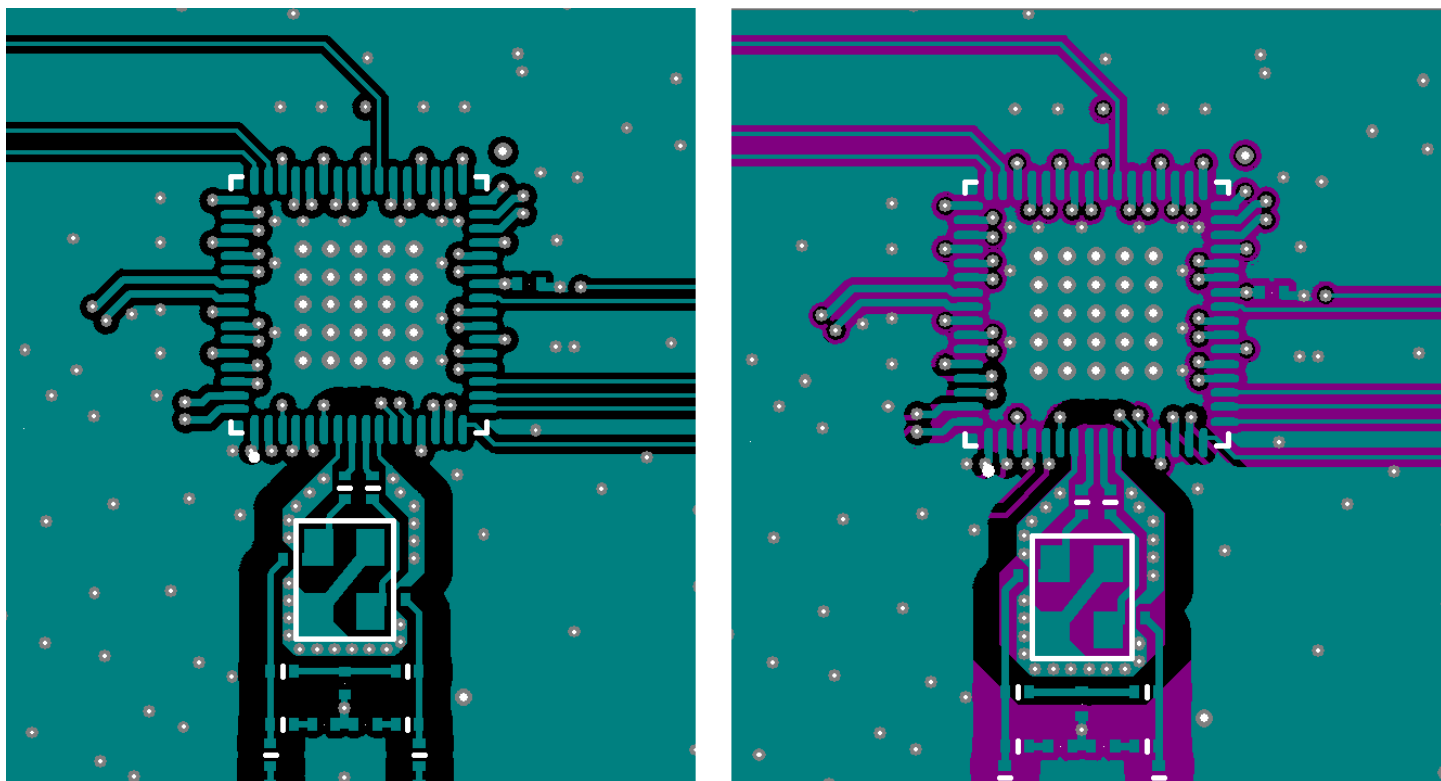
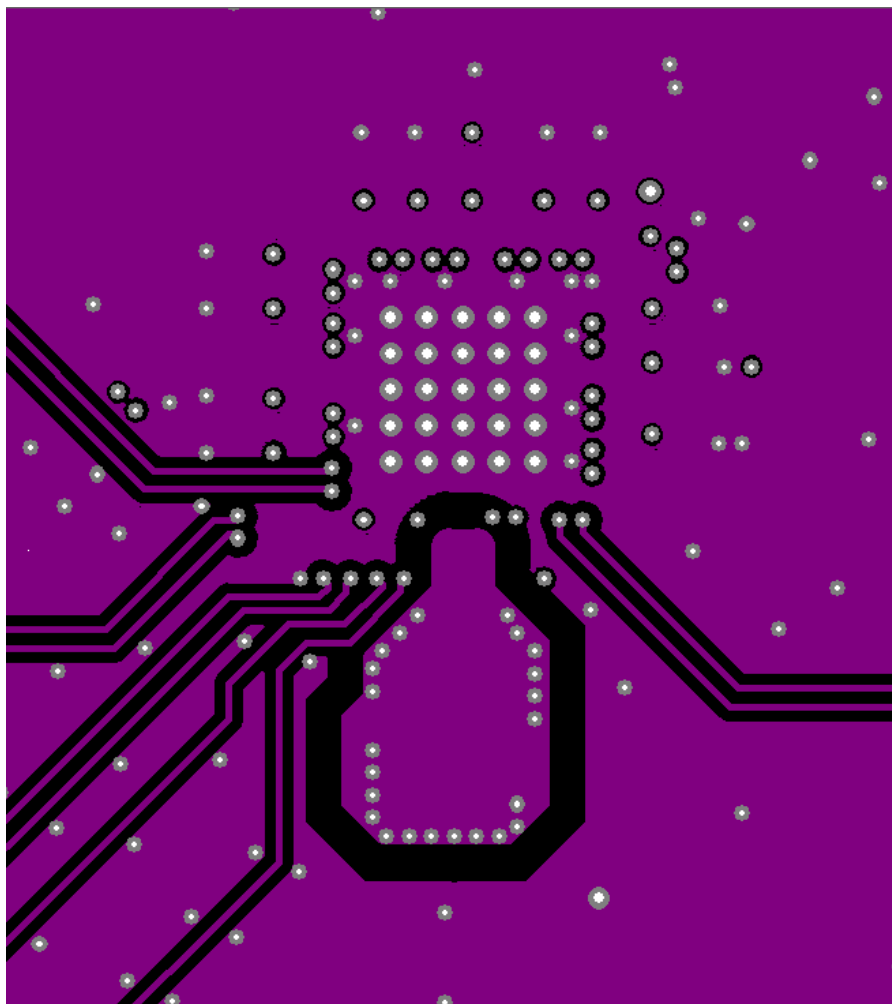

Figure 13.1. 64-pin Si5391 Crystal Layout Recommendations Top Layer (Layer 1)
Figure 13.2. Zoom View Crystal Shield Layer, Below the Top Layer (Layer 2)
3. Connect the crystal's GND pins to the DUT's X1 and X2 pins via a local crystal GND shield placed around and under the crystal. See Figure 13.1 64-pin Si5391 Crystal Layout Recommendations Top Layer \(Layer 1\) on page 54 at the bottom left for an illustration of how to create a crystal GND shield by placing vias connecting the top layer traces to the shield layer underneath. Note that a zoom view of the crystal shield layer on the next layer down is shown in Figure 13.2 Zoom View Crystal Shield Layer, Below the Top Layer \(Layer 2\) on page 55.
Figure 13.2 Zoom View Crystal Shield Layer, Below the Top Layer (Layer 2) on page 55 shows the layer that implements the shield underneath the crystal. The shield extends underneath the entire crystal and the X1 and X2 pins. This layer also has the clock input pins. The clock input pins go to layer 2 using vias to avoid crosstalk. As soon as the clock inputs are on layer 2, they have a ground shield above, below, and on the sides for protection.